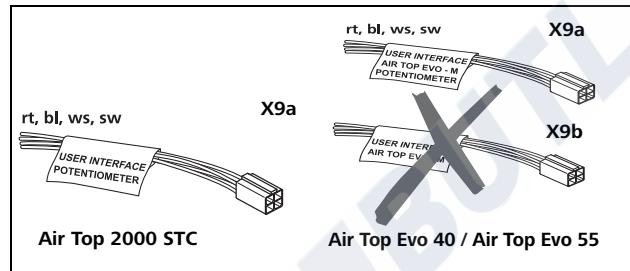
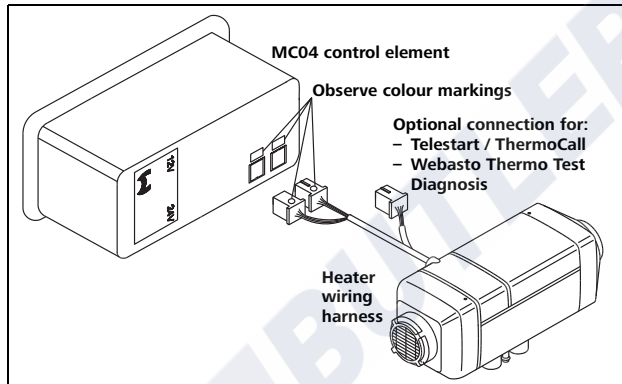

Fig. 42 Wiring of rotary switch
Fig. 45 Connection diagram Air Top Evo 40 / Air Top Evo 55 with MC04 control element
See Fig. 42 and wiring diagram.
- See Fig. 42 (connector X9a and X9b), as well as Fig. 45.